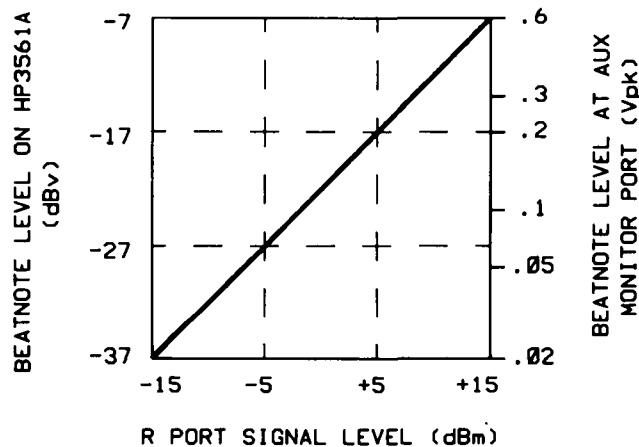

Figure 5-6. Beatnote Level Relative to the Signal Level at the R Port.
1. Observe the beatnote on the time record of the HP 3561A or on an oscilloscope connected to the AUX MONITOR port of the HP 11848A. Verify that the beatnote amplitude is correct for the signal level at the R input port on the HP 11848A. Figure 5-6 shows the relationship between the beatnote level and the level at the R input port.